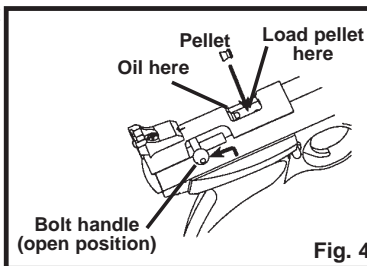

Fig. 4
- Cock the bolt by pushing the bolt handle up and pulling the bolt all the way back. (Fig 4)
- Cock the bolt by pushing the handle up and pulling the bolt all the way back until you hear two clicks. (Fig 4)